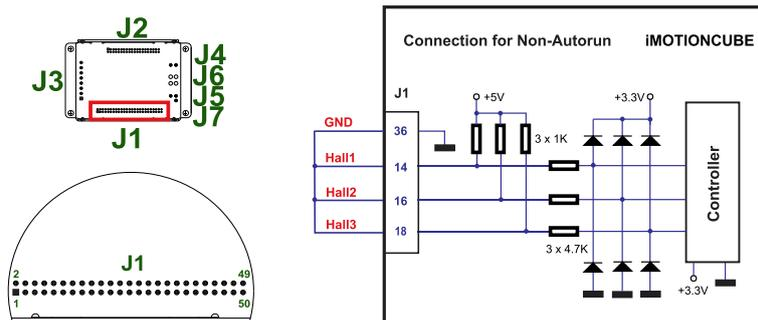

Figure 3.35. Temporary connection during power-on to remove the drive from Autorun mode
- Hardware – by temporary connecting all digital Hall inputs to GND, during the power on for about 1s (until the green led is turned on), as shown in *Figure 3.35*. This option is particularly useful when it is not possible to communicate with the drive.